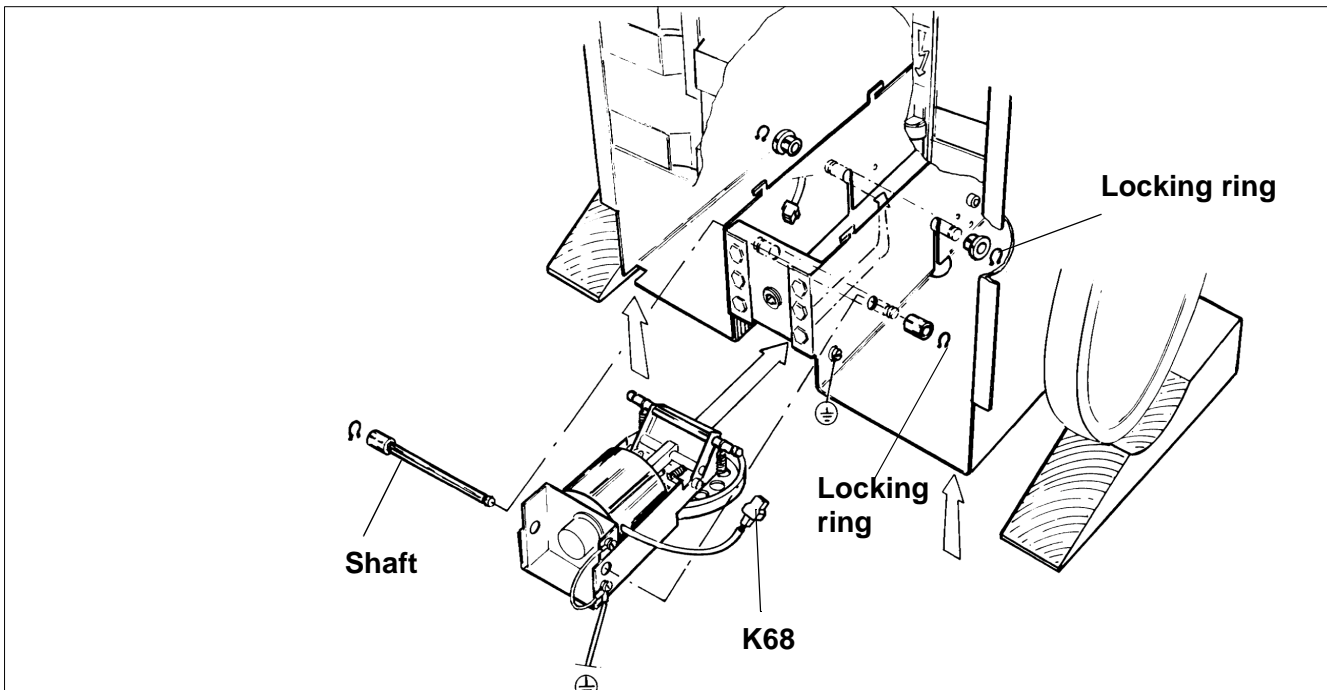

Fig. 15
- Disconnect all cables, ground connection and K68, according to (Fig. 15).